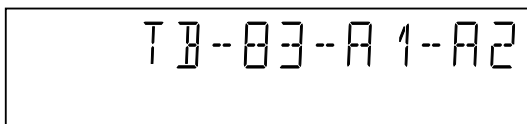

Figure 2
2. While lifting up the lever (①), move the left side of the tray by pulling it forward (②). (Fig. 2)
3. While lifting up the tray (③), remove the tray by pulling it forward (④). (Fig. 2)